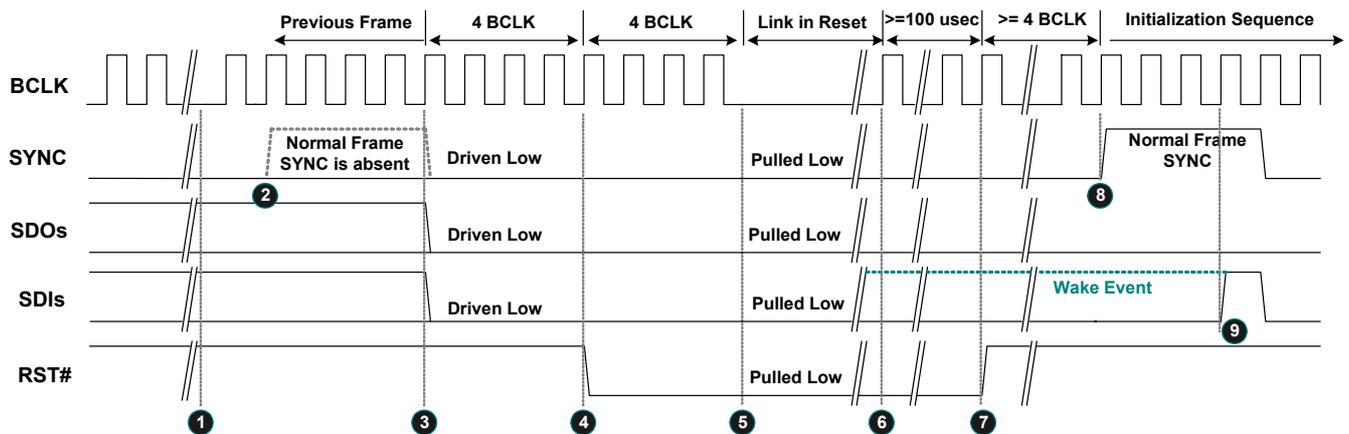

Figure 13. Link Reset Timing
3. Software initiates power management sequences. Figure 13, shows the ‘Link Reset’ timing including the ‘Enter’ sequence (①~⑤) and ‘Exit’ sequence (⑥~⑨)